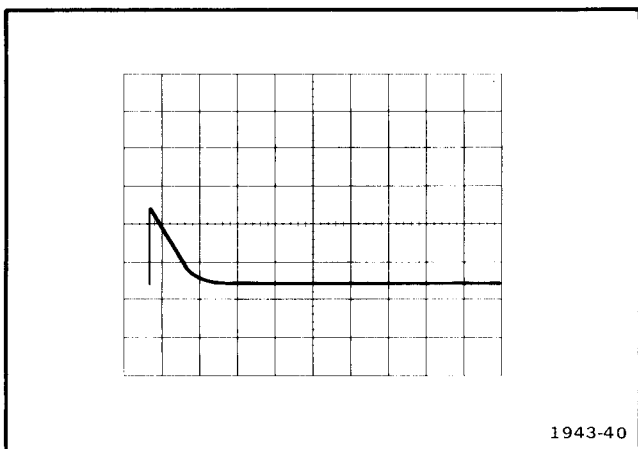

Fig. 6-16. Fine sweep start and stop.
- ADJUST—R713 so displayed marker starts at beginning of sweep (see Fig. 6-16).